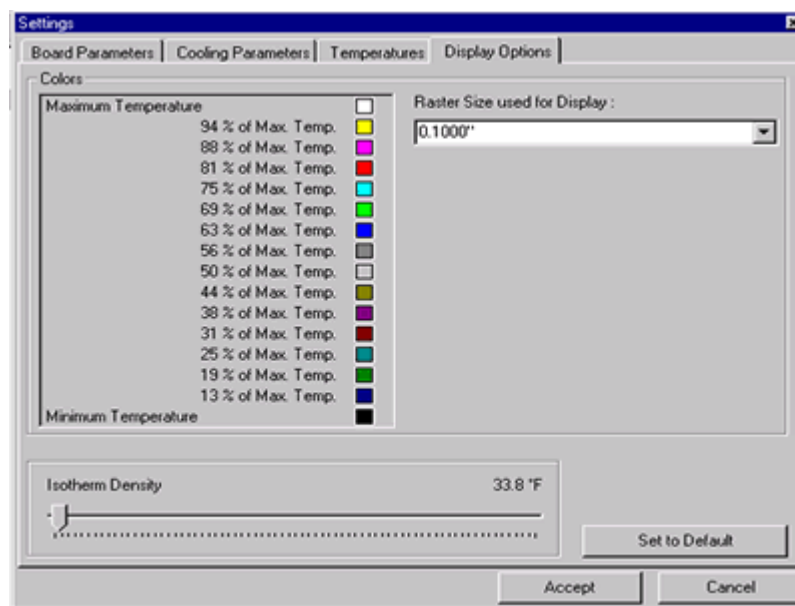

Fig. 9-1
4. Right click on the workspace and select the tool  **Display Parameters**. Or select **Analysis/ Settings** to open the settings window and click the Display Options tab (Refer Fig.9-1). Set the raster to a minimum value (0.025") and set the Isotherm density to (0.1°C) for better analysis result.